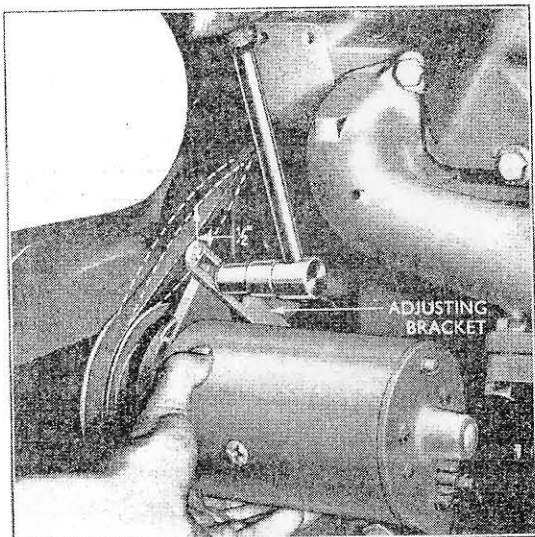

Fig. 33.
10. Refit the generator and fan belt and adjust to give the correct fan belt tension of $\frac{1}{2}$ in. (12.7 mm.) free movement measured midway between the generator and fan pulleys (see Fig. 33).